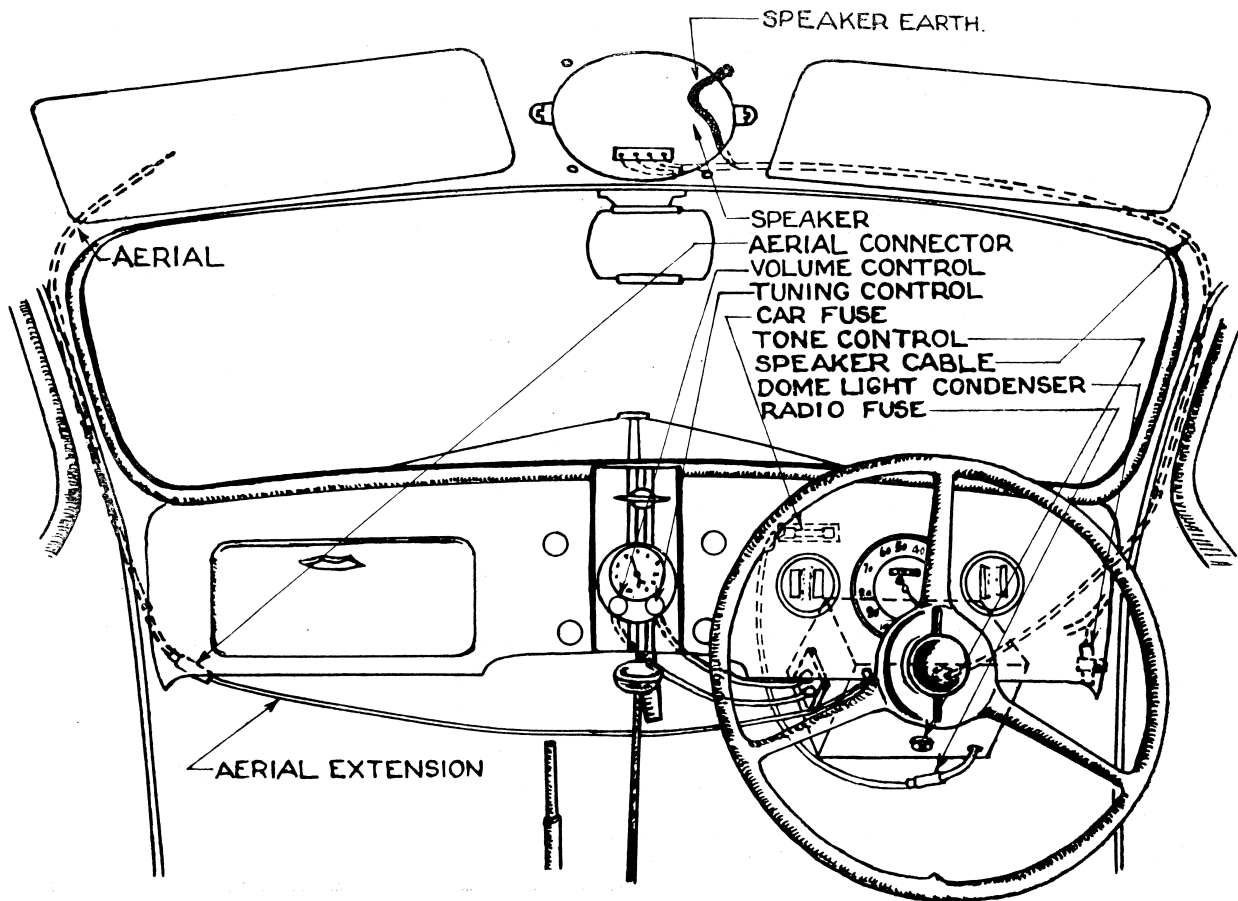

FIG.1
snuffer, and remove the ash receptacle. Next remove the round-headed screws on both sides of the opening, and then the clamp and chrome-plated face-plate. Assemble the control head and shafts in this opening. (Fig. 1.)
3. Instal dome-light condenser, Part No. A1009, where wire enters corner post (see Fig. 1).